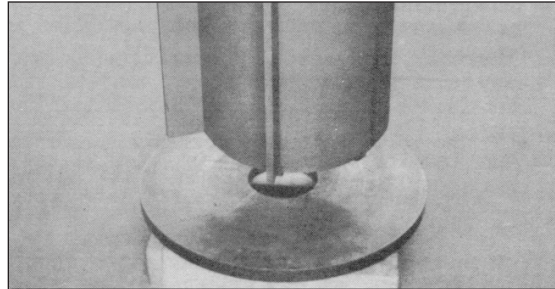

Figure 25
11. Insert an eyebolt into tapped hole in bottom end of rotor shaft (shaft nut with loop for the JB10). Raise rotor assembly and set on a suitable wooden block or metal plate, Figure 25 (see Page 7).